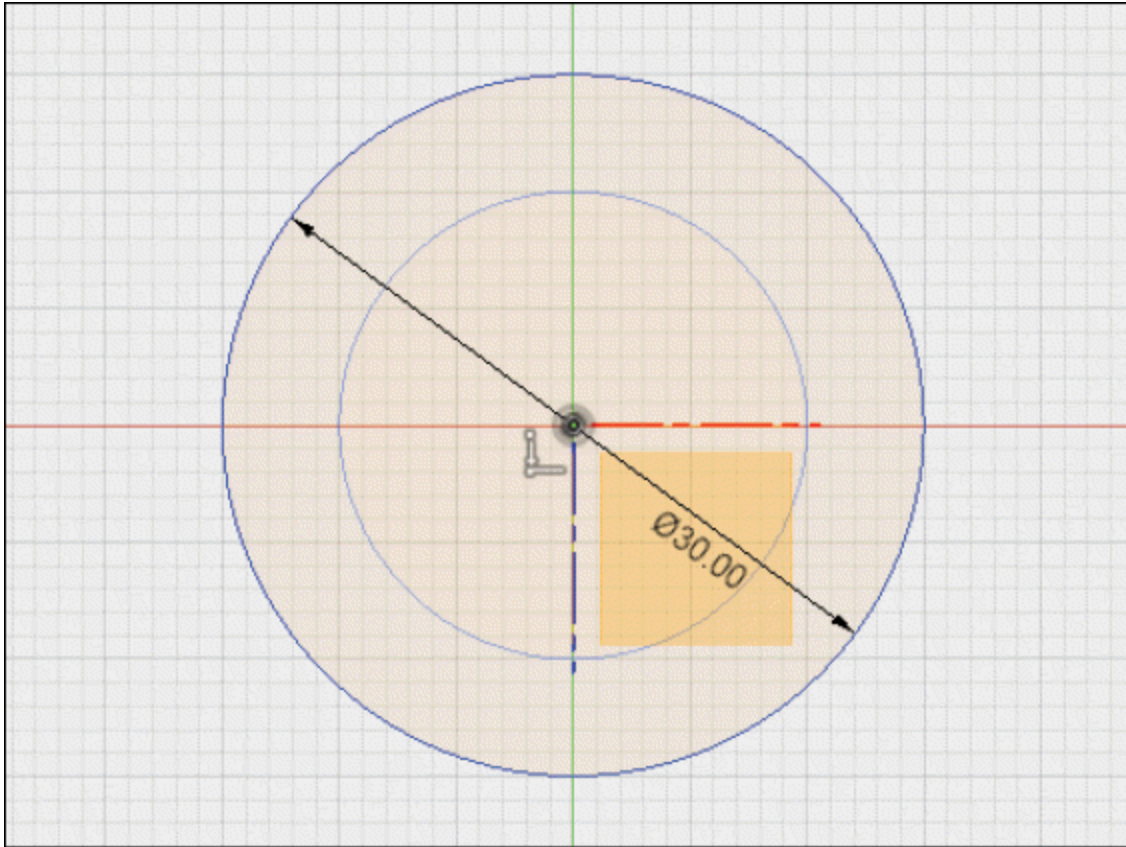

Figure-74. Creating second sketch
- Create a center diameter circle on recently created offset plane; refer to Figure-74.